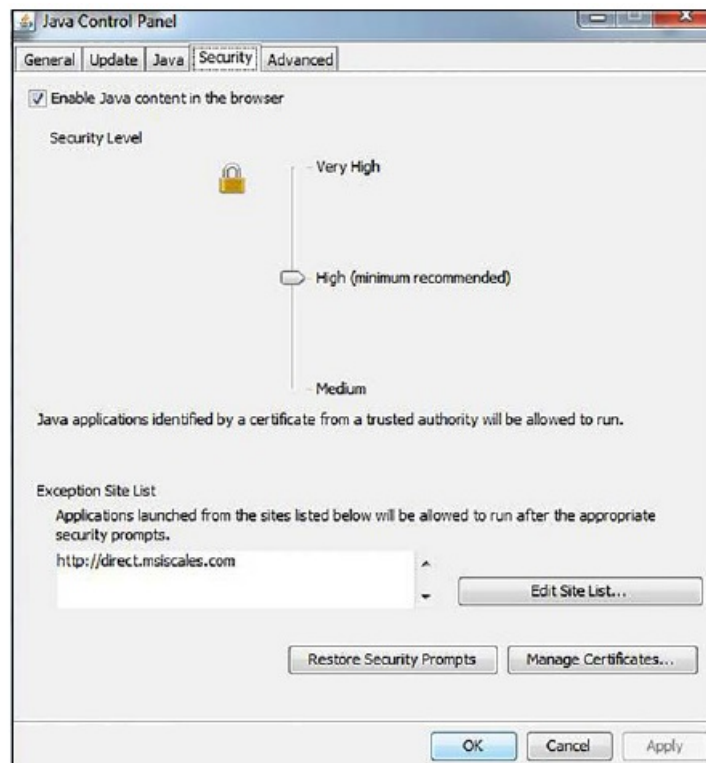

Figure 3-1. Add MSI Site to Security
6. Add the Scale Discovery Utility (Figure 3-1)